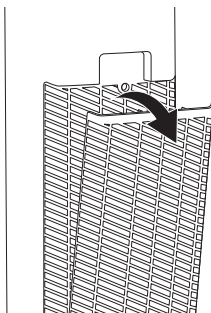

Figure 2
2. Remove carefully the guard grid by pulling it to the top (Figure 2).